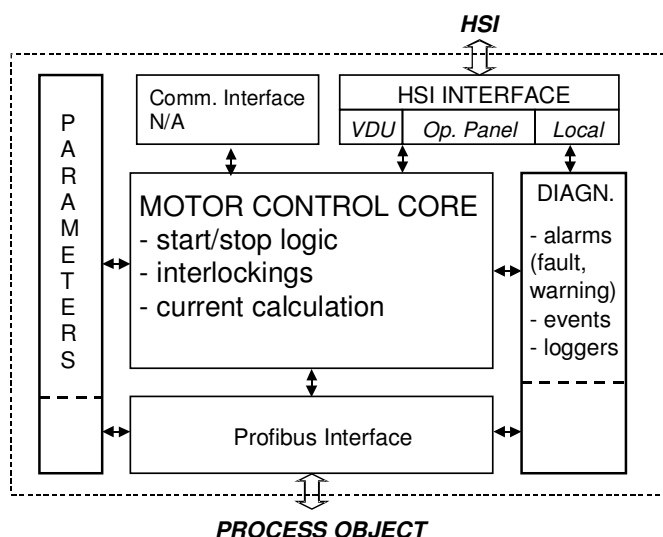

Figure 2-1. The Structure of the Functional Unit
- A section for operator functions, which consists of presentation and order functions. Data and parameters from the process are presented on an Operate^{IT} Operator Station. The keyboard of the Operate^{IT} Operator Station is used by the operator to enter commands which control the operation of the functional unit. The response to the operator's intervention is shown on the display screen of the Operate^{IT} Operator Station. The application work for this part is normally limited to the arrangement of the display. Figure 2.1 shows the structure of the functional unit.